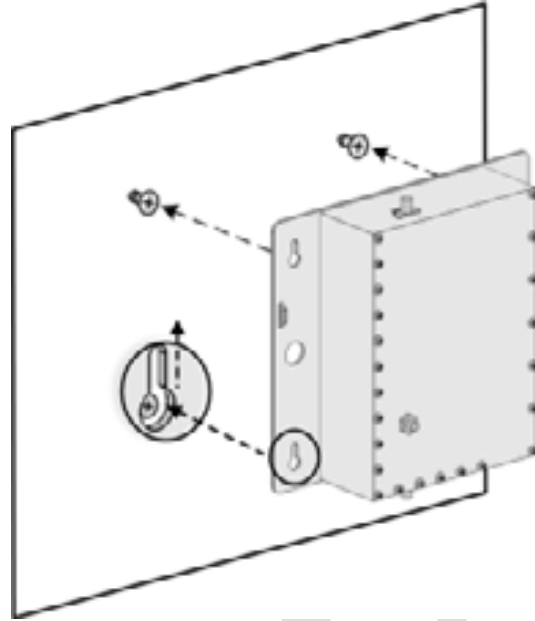

Figure 5-101. Mounting Cavity Filter on Wall
3. Hang the Cavity Filter on the anchors/screws and pull down to lock in narrow end of key hole. Refer to Figure 5-101.